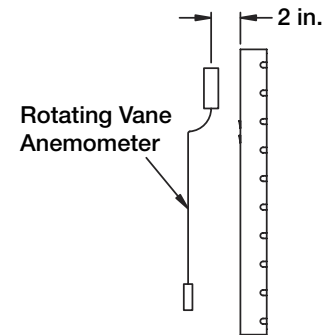

Fig. 32
- Measure the velocity of each location. A digital 2.75 in. (70 mm) rotating vane anemometer or its equivalent is suggested. The center of the anemometer should be held 2 in. (50 mm) from the face of the filters as in Fig. 32. It is helpful to make brackets to keep the anemometer at the 2 in. (50 mm) distance and parallel to the filter. Both squareness and distance are important for accuracy.